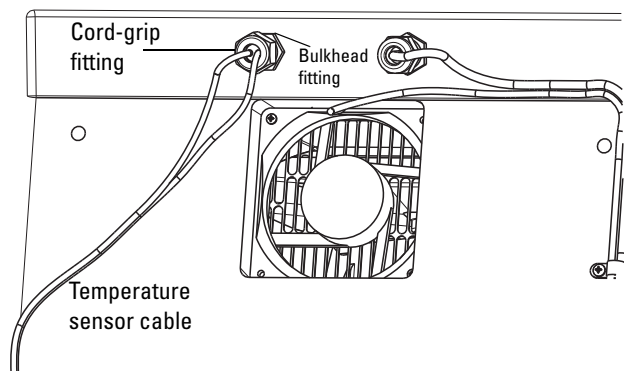

Figure 10: Temperature sensor wiring entry at rear of cabinet
5. The wiring assembly enters the rear of the refrigeration cabinet just above the upper left corner of the fan (Figure 10). Unscrew the black cord-grip fitting from the bulkhead fitting in the refrigerator's rear wall.